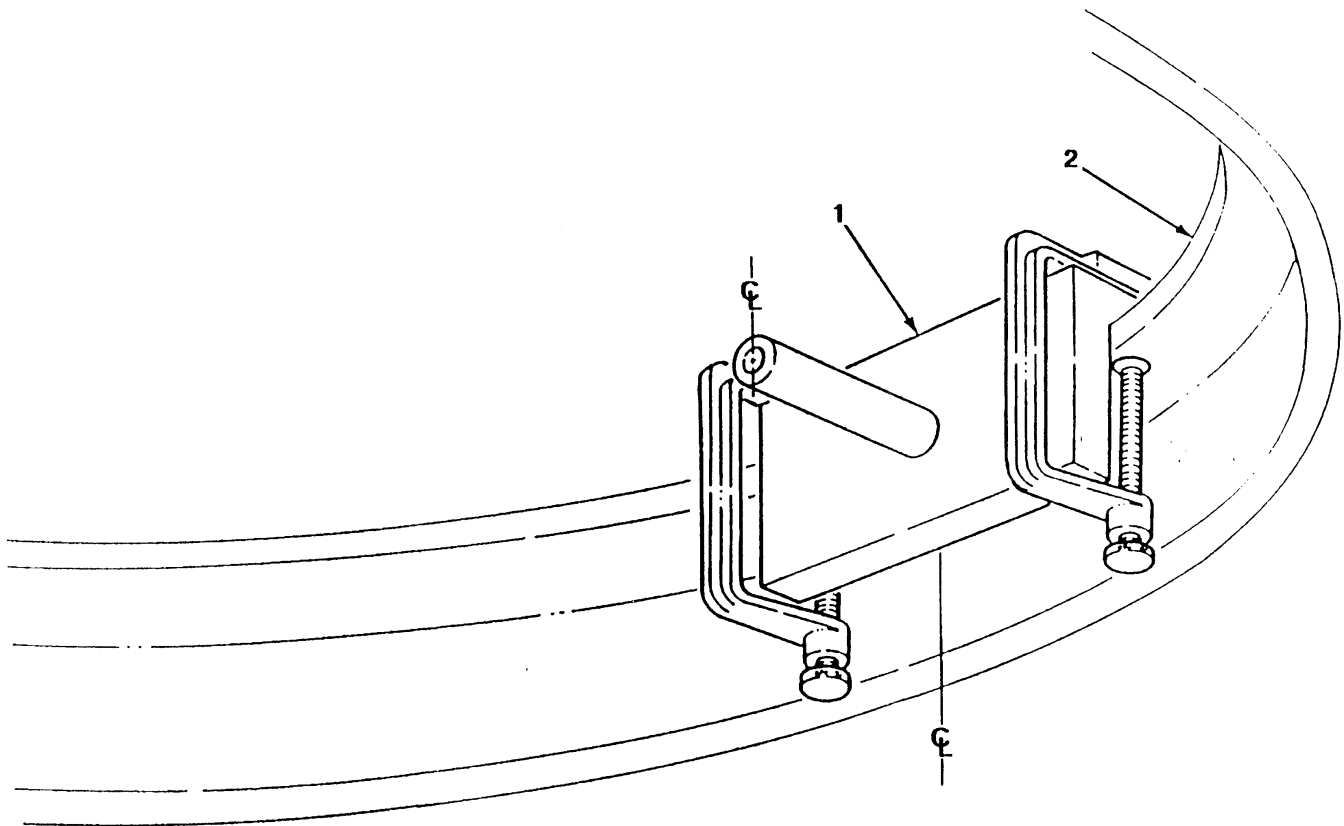

FIGURE 3-13
3. Secure fixture (1) to inner bearing (2) with centerline of hole in fixture (1) aligned with mark on inner bearing (2). (see figure 3-13)